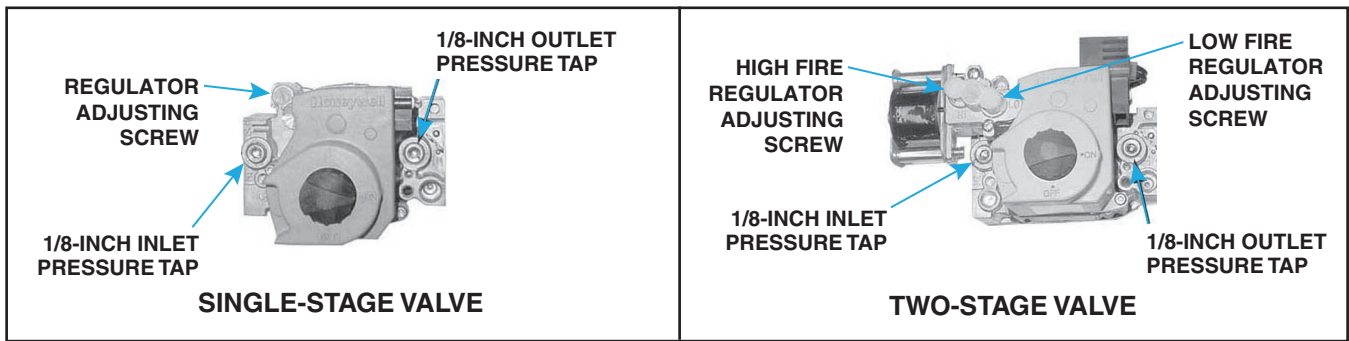

Figure 19. Combination Gas Valve Test Connections
1. Locate 1/8-inch FPT INLET pressure tap on combination gas valve (see Figure 19).
2. With field-installed manual valve closed to prevent flow to gas valve, connect manometer to 1/8-inch FPT INLET pressure tap (see Figure 19).